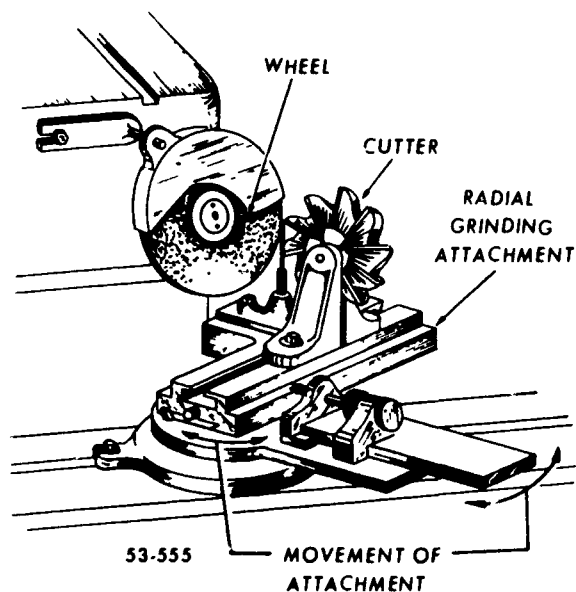

Figure 3-26. Radial grinding attachment
**Radial Grinding.** As we previously mentioned, you can grind convex or concave surfaces with the aid of the radial grinding attachment. You use this attachment with the workholders to produce a convex radius on milling cutters, as shown in figure 3-26. In addition to holding work for grinding, the attachment can form the circumference of a grinding wheel into a convex or concave radius. You can do this by mounting a diamond dresser on the attachment, which then moves the diamond through the desired arc or radius and dresses and trues the grinding wheel to shape. When you are forming a wheel to a convex shape, the wheel width should be twice the desired radius. If the wheel is wider than twice the radius, a shoulder will result. If it is narrower, you cannot produce a full radius. When you are forming a wheel into a concave radius, the wheel width should be twice the desired radius plus 1/8 inch on each side to give added strength to the edges. A typical grinding operation for which you use a convex-shaped wheel is the sharpening of tap flutes.